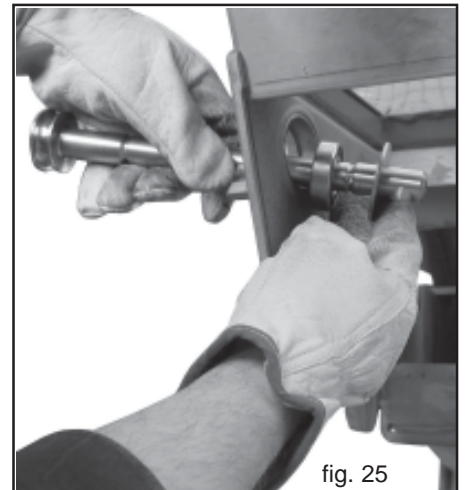

fig. 25
- 4) Tilting the shaft slightly and pushing inwards, remove the bearing and the protection disc from their housing (Fig. 25). Repeat this operation on the other side.